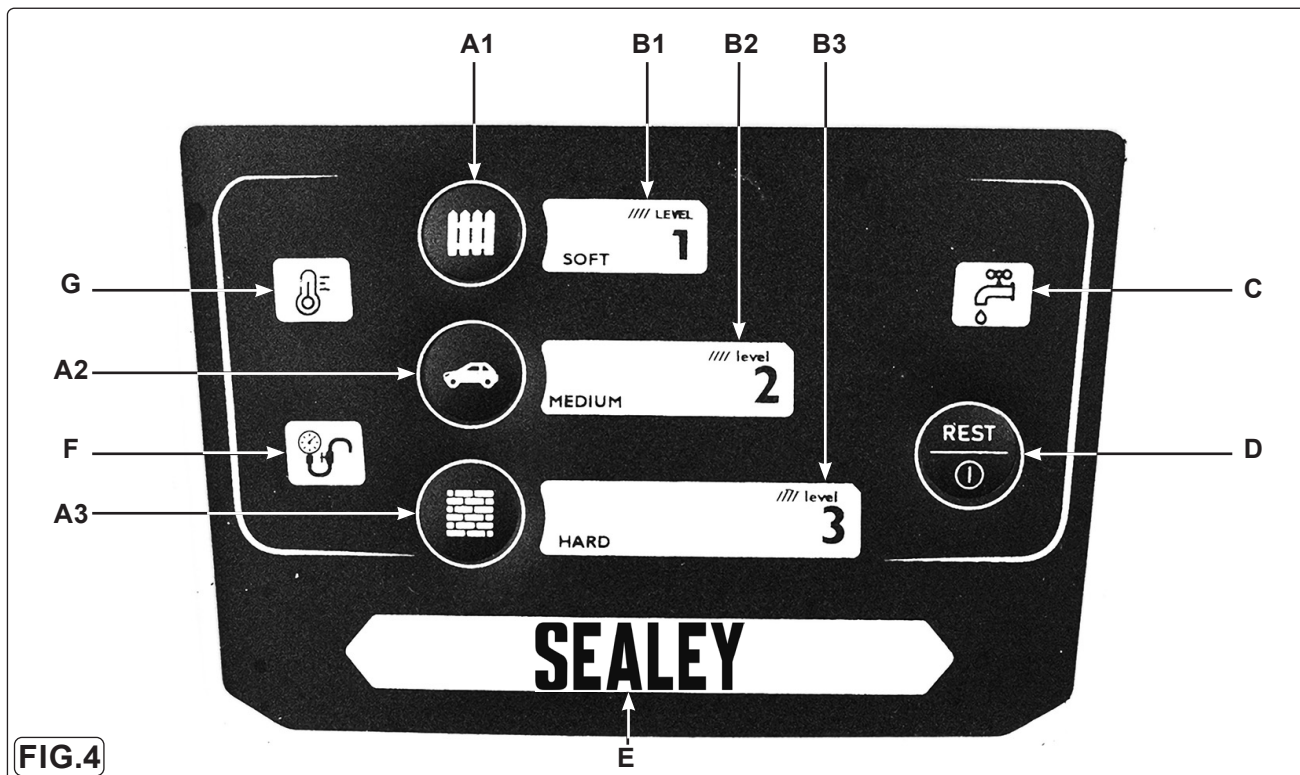

FIG.4
- 5.6.1. To enter pairing, depress and hold Level 1 and Level 3 buttons (fig.4) for 2 seconds. The indicator light (fig.4.E) will flash. To exit pairing, depress and hold the Level 1 button for 2 seconds.
- 6.4.1. There are three levels of pressure settings (fig.4). Level 1 is the setting suitable for cleaning fences, cement terraces etc. Level 2 setting is suitable for cleaning vehicles, boats, motorcycles etc. Level 3 setting is suitable for cleaning barbecue grills, garden tools etc.